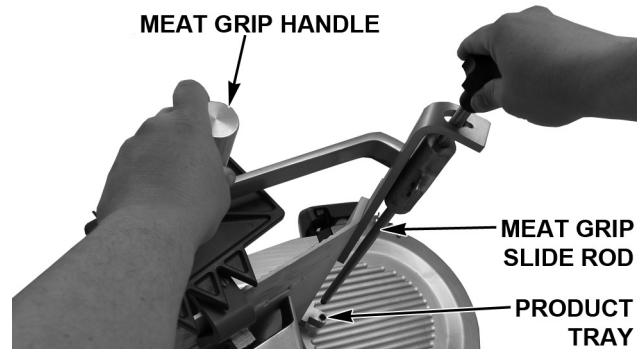

Fig. 27
- Install the Meat Grip Assembly (Fig. 27) on the Product Tray by sliding the Meat Grip Slide Rod into the Meat Grip Handle and Product Tray.